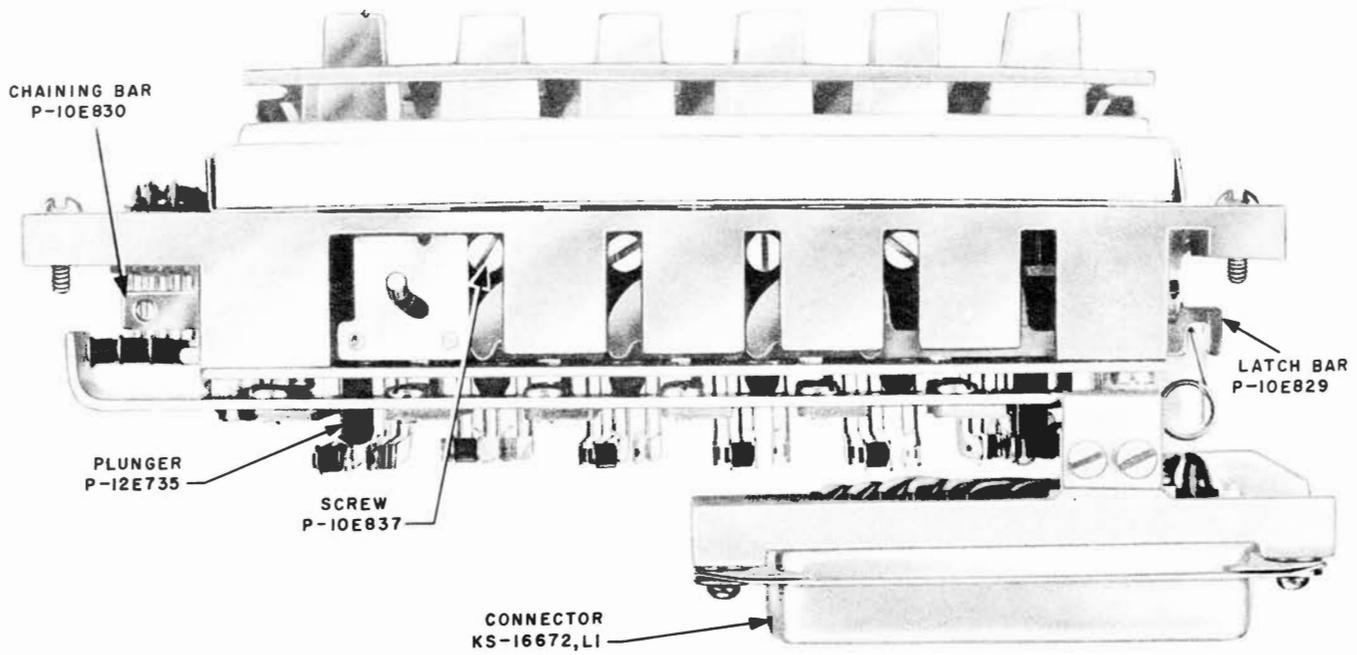

Fig. 5 — 599B Key
3.06 The 599B key module (see Fig. 5) is the same design as the 599A key with the following exceptions: